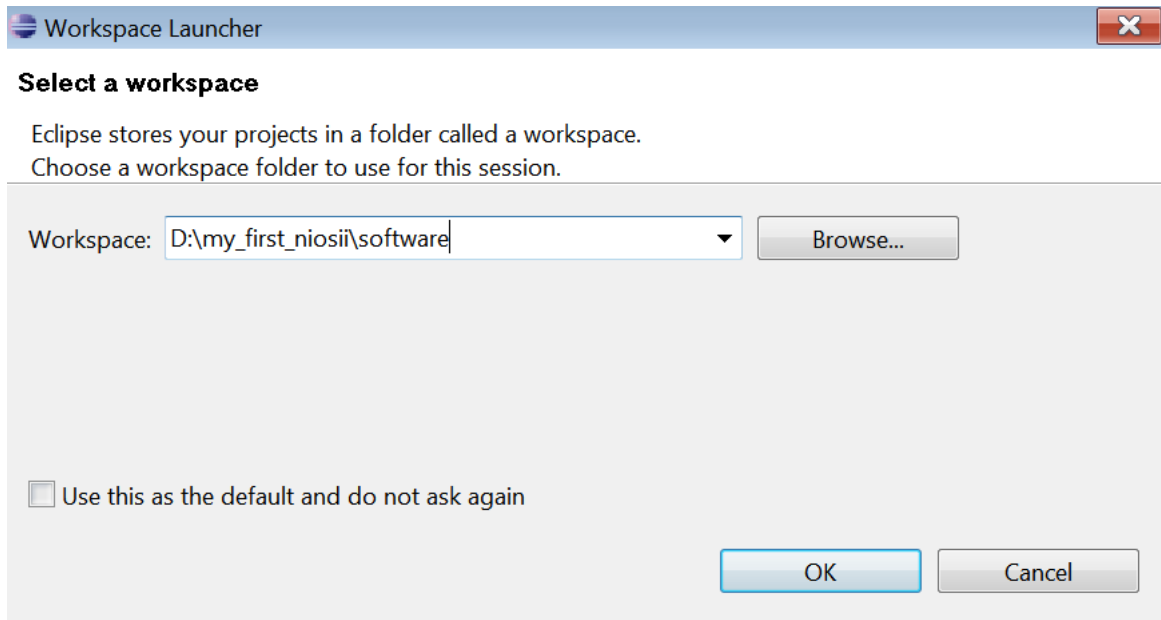

Figure 2-1 Select a workspace in Nios II SBT
2. Select a workspace and click **OK**, as shown in **Figure 2-1**.